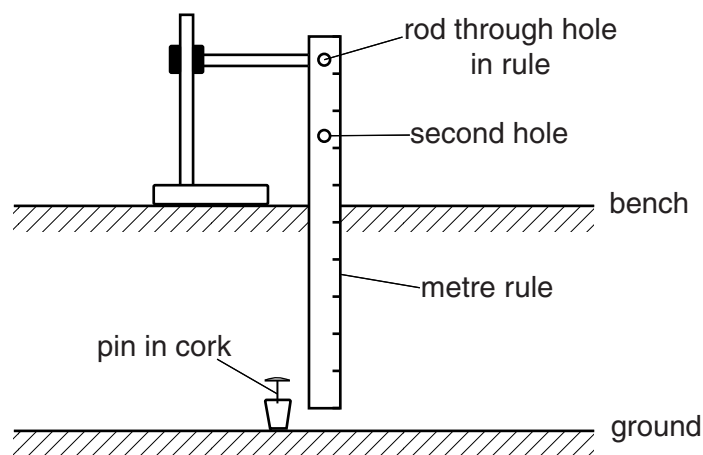

Fig. 3.1
3. The rod will need to be supported so that the lower end of the metre rule is approximately 5 cm above the floor. The **candidate** will set up the apparatus as shown in Fig. 3.1 with the metre rule suspended over the edge of the bench. The metre rule must be able to swing freely.